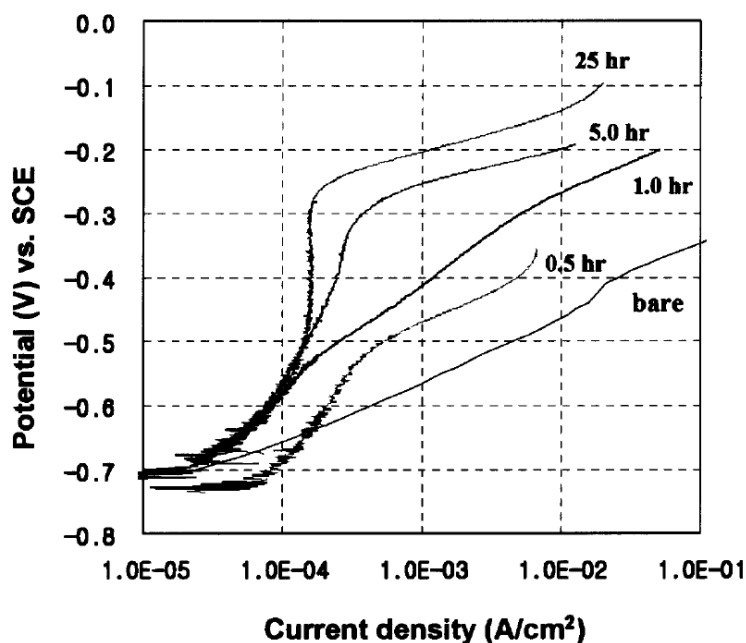

Figure 7.1: Anodic Polarization curves of various coating deposited at  $0.5 A/cm^2$  for different times in seawater14.
- Figure 7.1 shows the calcareous deposit coating over different immersion times. The longer immersion times resulted in a thicker calcareous deposit. Results show that passive region was increased, which indicated better corrosion resistance of the deposit14.